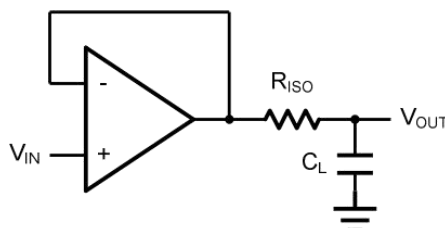
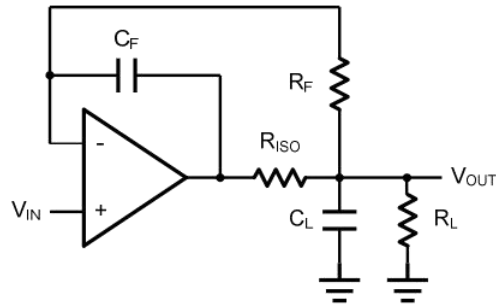

Figure 2. Indirectly Driving a Capacitive Load Using Isolation Resistor
Figure 3. Indirectly Driving a Capacitive Load with DC Accuracy
The HG855x family is optimized for bandwidth and speed, not for driving capacitive loads. Output capacitance will create a pole in the amplifier's feedback path, leading to excessive peaking and potential oscillation. If dealing with load capacitance is a requirement of the application, the two strategies to consider are (1) using a small resistor in series with the amplifier's output and the load capacitance and (2) reducing the bandwidth of the amplifier's feedback loop by increasing the overall noise gain. Figure 2 shows a unity gain follower using the series resistor strategy. The resistor isolates the output from the capacitance and, more importantly, creates a zero in the feedback path that compensates for the pole created by the output capacitance.
The circuit in Figure 3 is an improvement to the one in Figure 2. R_F provides the DC accuracy by feed-forward the V_{IN} to R_L . C_F and R_{ISO} serve to counteract the loss of phase margin by feeding the high frequency component of the output signal back to the amplifier's inverting input, thereby preserving the phase margin in the overall feedback loop. Capacitive drive can be increased by increasing the value of C_F . This in turn will slow down the pulse response.